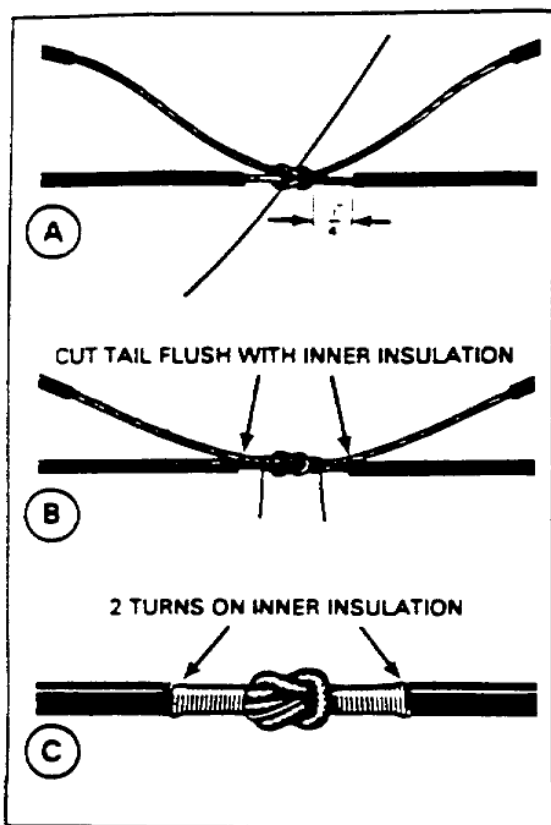

Figure 6-17. Square knot with seizing wire.
□ When seizing wire is available, insert a 6- to 8-inch length of seizing wire through the center of the square knot and tighten the knot (A, figure 6-17). Bend the seizing wire at its center. Use half of the wire for wrapping to the right. Take several close turns with the seizing wire, both to the left and to the right, to bind the square knot (B, figure 6-17). Cut the excess ends of the conductor flush with the insulation. Continue the seizing wire wrap, to the left and to the right of the square knot, until two turns are taken on the
insulation. Cut the ends of the seizing wire, and press them down into the insulation (C, figure 6-17).